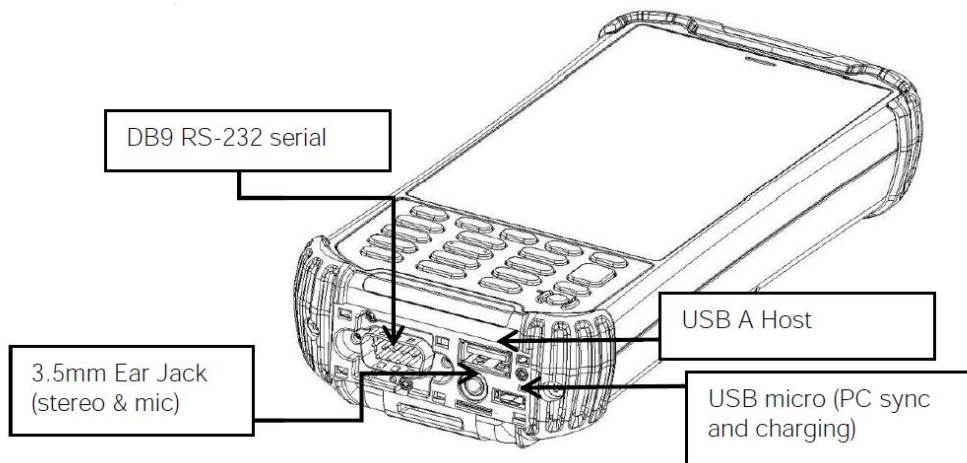

Figure 10 – Overview of Ultra-Rugged Handheld
15. Upon returning to the office, clean the instrument and reel once more to remove any moisture from the instruments and the case. Recharge the batteries for the Reel and connect the power and USB communication cables to the Ultra-Rugged Handheld (Figure 10). ***Please refer to Section 12 for proper care and maintenance of the system.***
Once the inclinometer probe is connected to the reel and the probe is ready to be placed in the borehole, turn on the power to the Ultra-Rugged Handheld by pressing the power button (Figure 10).